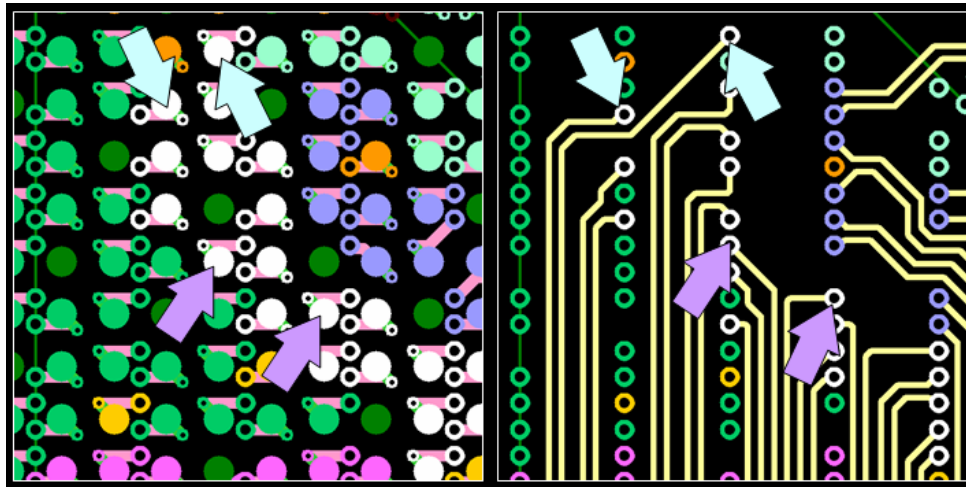

Figure 9 – Contortion of Differential Pairing
- Arrangement of the banks on an FPGA. The banks may be grouped together nicely or sometimes split up. The arrangement of the pins in the bank may or may not be convenient for differential pair routing, especially since the use of aligned or staggered micro-vias and buried-vias tend to warp the nice symmetry that is often provided at the ball pad level as shown in Figure 9.